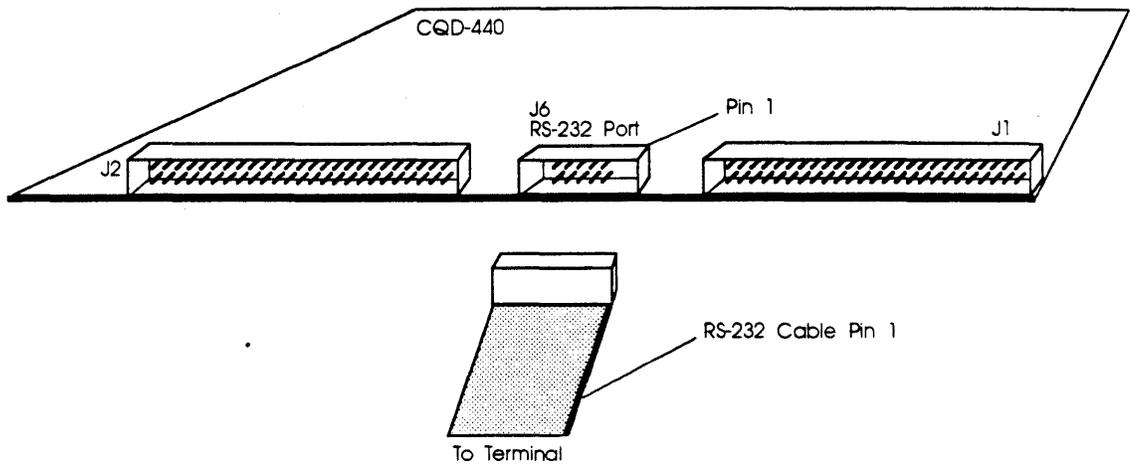

Figure 4-3: CQD-440 RS-232 Port
- 1 Connect a terminal to the CQD-440's RS-232 port (10 pin connector) or to the CQD-443's RS-232 port (DEC compatible RJ-11/Modified Module 423 Jack connector). See Figures 4-3 and 4-4.